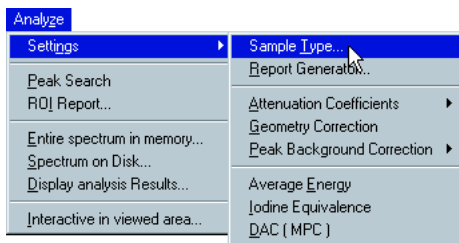
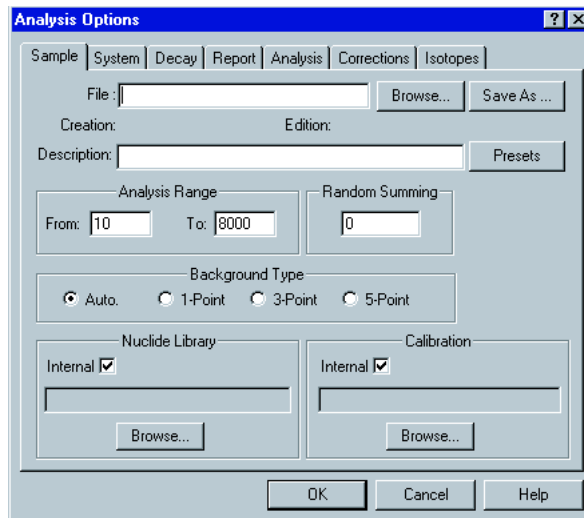

Fig. 34A
Fig. 34B
2.8 Choose Analyze, Settings, Sample Type (Fig. 34A) to open the Analysis Options dialog window (Fig. 34B).